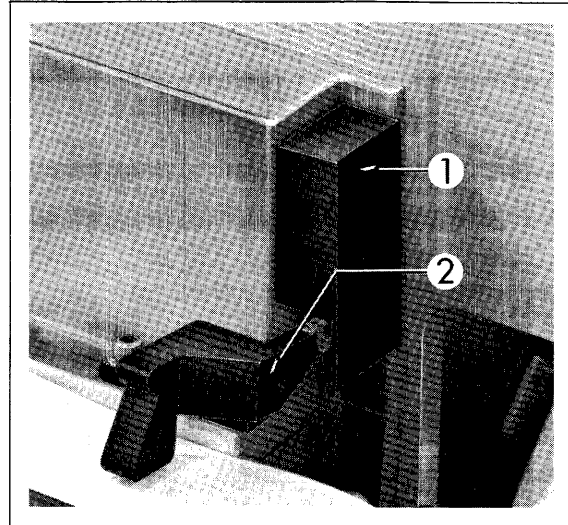

Figure 35
The End of Tape option is located as shown in Figure 35. It consists essentially of a switch w/cover (1) and actuator (2). Tape passes between the actuator and the tape guide. When the end of the tape passes under the actuator, the bottom of the actuator drops into a depression in the tape guide; its lever action operates the switch. The switch may provide an open or closed circuit, depending on the customer's requirements. See the wiring diagram, Figure 44.
Also, the following parts are added to Figure 50: (See Figure 35 for location of major parts).